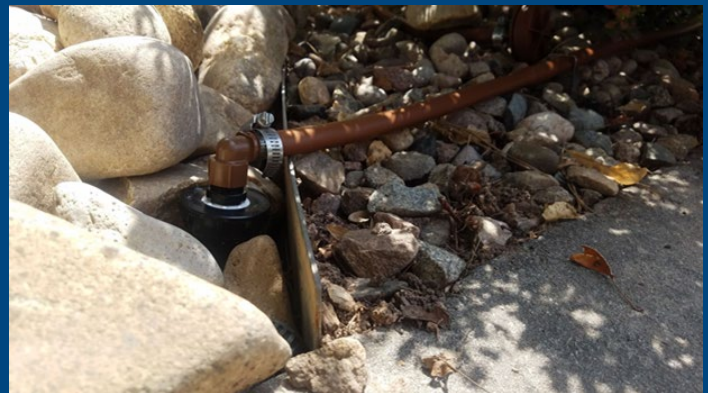

Figure 4: (Xeriscape Incentive Program)
5. Attach drip tube to retrofit kit (figure 4). Secure tube to fitting with hose clamp.